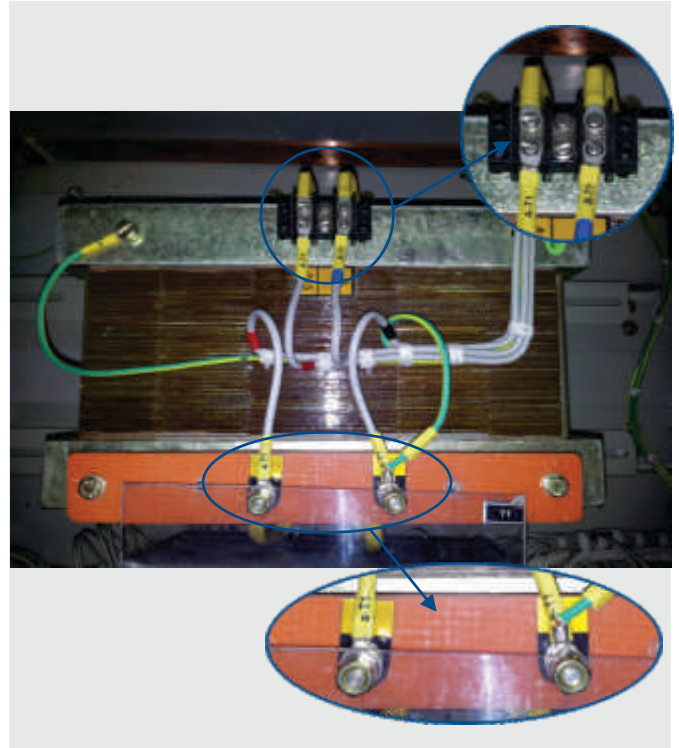

Figure 33 - Installation of Control Transformer
- Put the ACB on the cradle with the help of ACB lifting truck Figure 33.